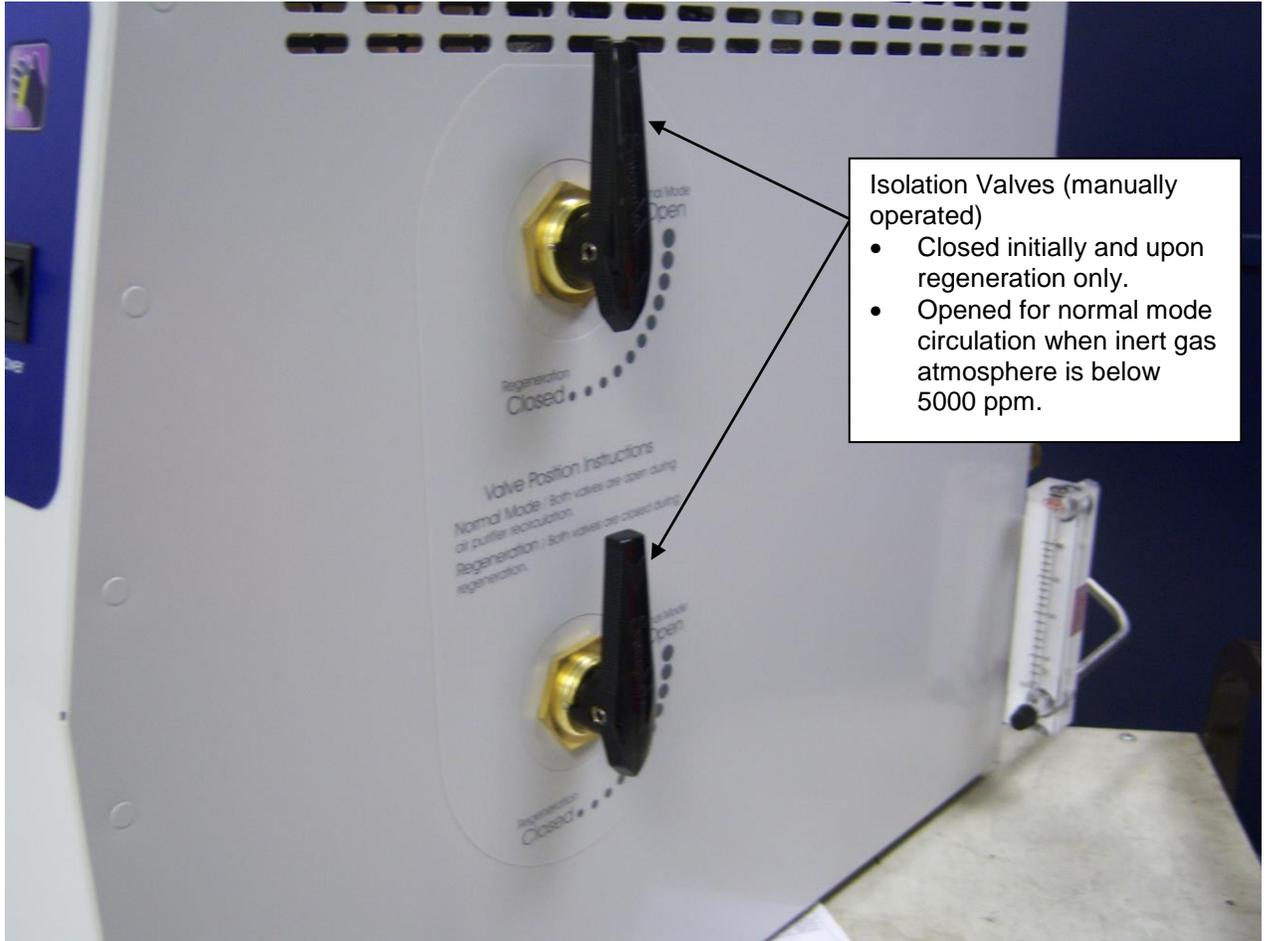
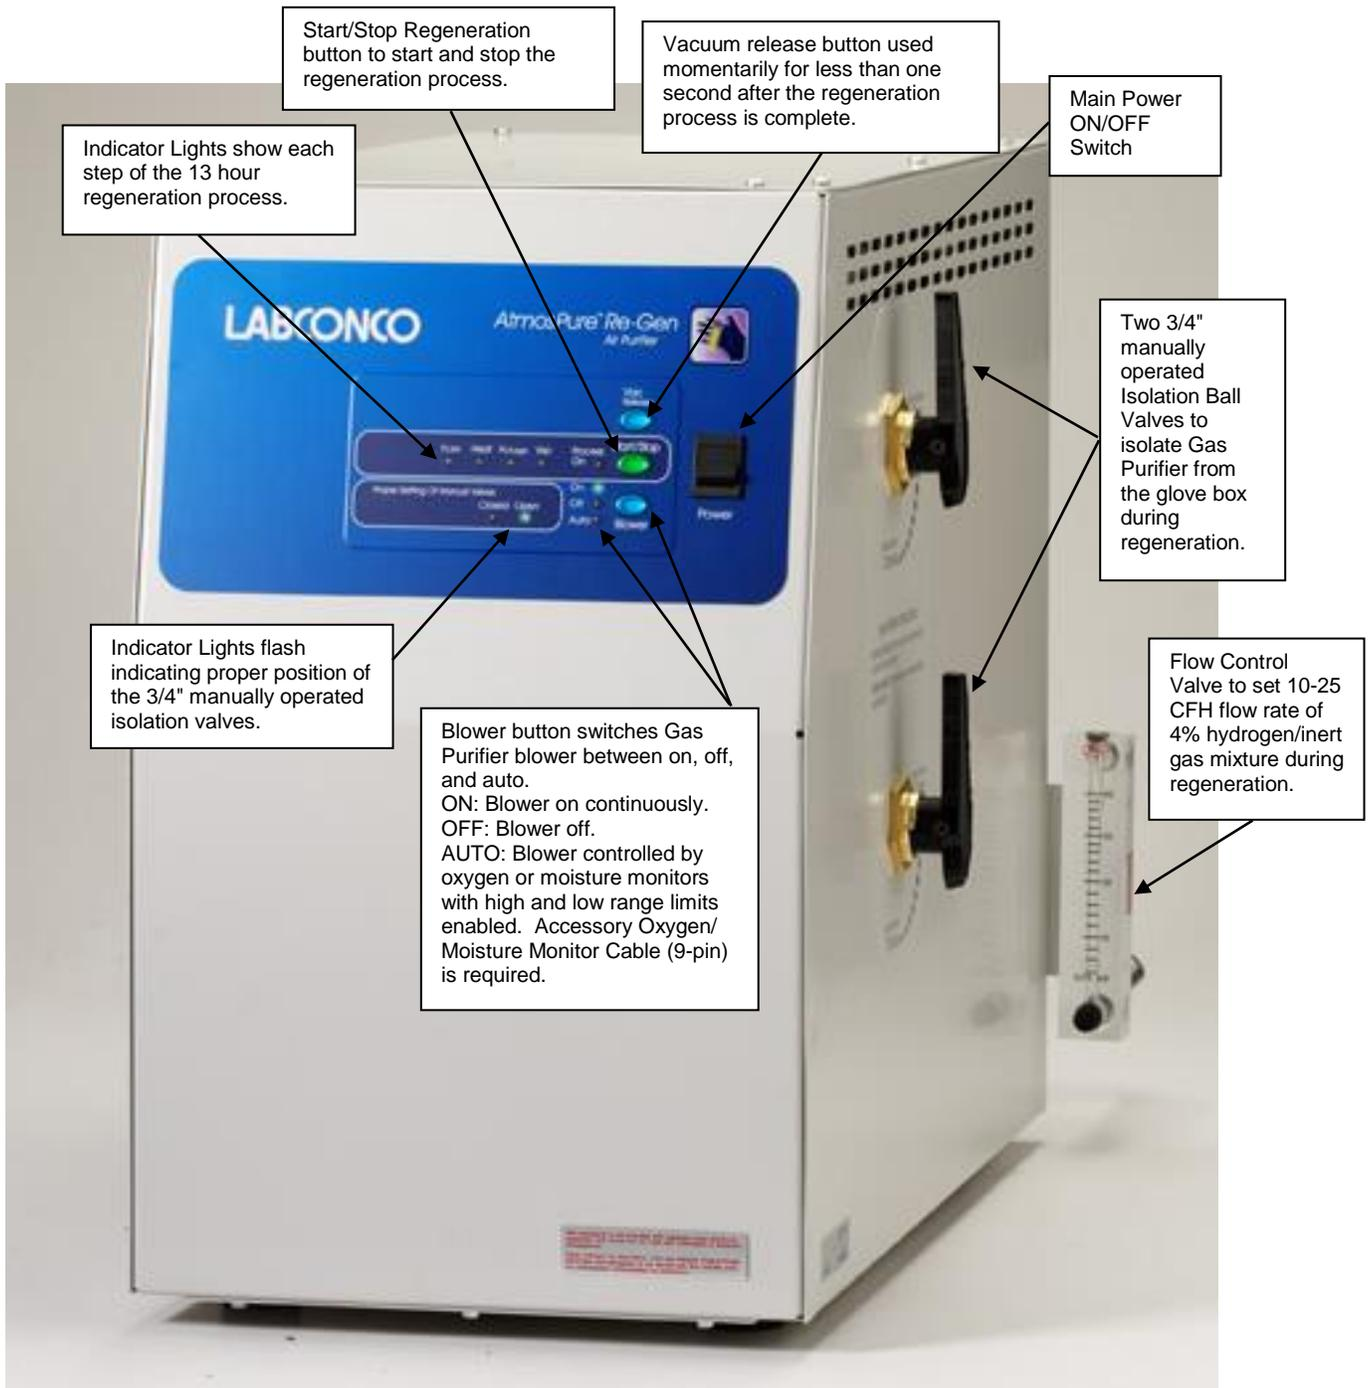

Figure 3-4
Figure 3-7
Note: The Gas Purifier ships fully regenerated and ready to use. Keep the isolation valves (manually operated) closed until ready to use. The isolation valves (Figure 3-4) must be closed until the glove box inert gas atmosphere is below 5000 ppm. Opening the isolation valves before the Gas Purifier and glove box are ready for operation will cause a loss in oxygen and moisture removal capacity.
Do **not** open the isolation valves (Figure 3-4) until the inert atmosphere in the controlled atmosphere glove box main chamber has been reduced below 5000 ppm for both oxygen and moisture. The Gas Purifier arrives fully regenerated and ready for use. Usually 5000 ppm can be attained through 200 evacuation and fill cycles of inert gas into the glove box. Once 5000 ppm or less is achieved, the Gas Purifier isolation valves may be opened and the blower turned on. Simply turn the blower ON as identified on the control panel per Figure 3-7. Once turned ON, the blower circulates inert gas air from the glove box through the Gas Purifier column; oxygen and moisture will start to drop immediately. The button switches the Gas Purifier blower between ON, OFF, and AUTO. ON operates the blower continuously, OFF shuts the blower down, and AUTO turns the blower on and off if an oxygen or moisture monitor control range is desired. If AUTO is chosen, the oxygen or moisture monitor (available from Chapter 7) must be programmed and the monitor automatically controls the blower function.
The regeneration procedure requires 13 hours and may be done overnight. Refer to Figure 3-7 for control panel features.
Step 3 – Push the automatic START/STOP button on the AtmosPure control panel (see Figure 3-7) to begin automatic regeneration.